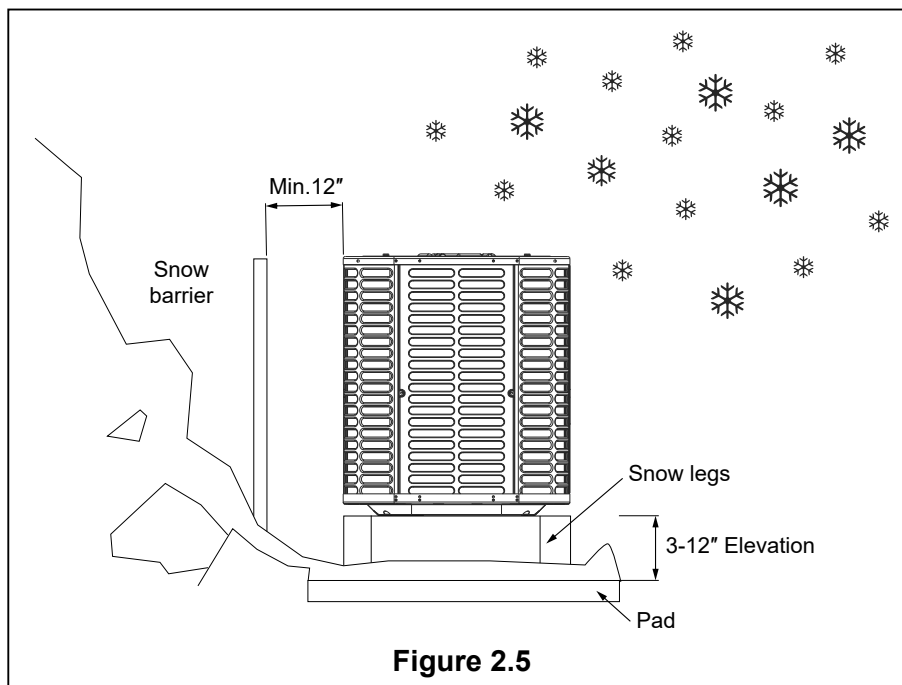

Figure 2.5
- Depending on the local weather conditions, the unit should be raised between 3 and 12 inches. This extra height will allow the snow and ice melted during the defrosting cycle to be discharged before re-freezing. Make sure that the drain hole on the unit chassis is not blocked, otherwise it will hinder the defrosting water discharge (Figure 2.5).